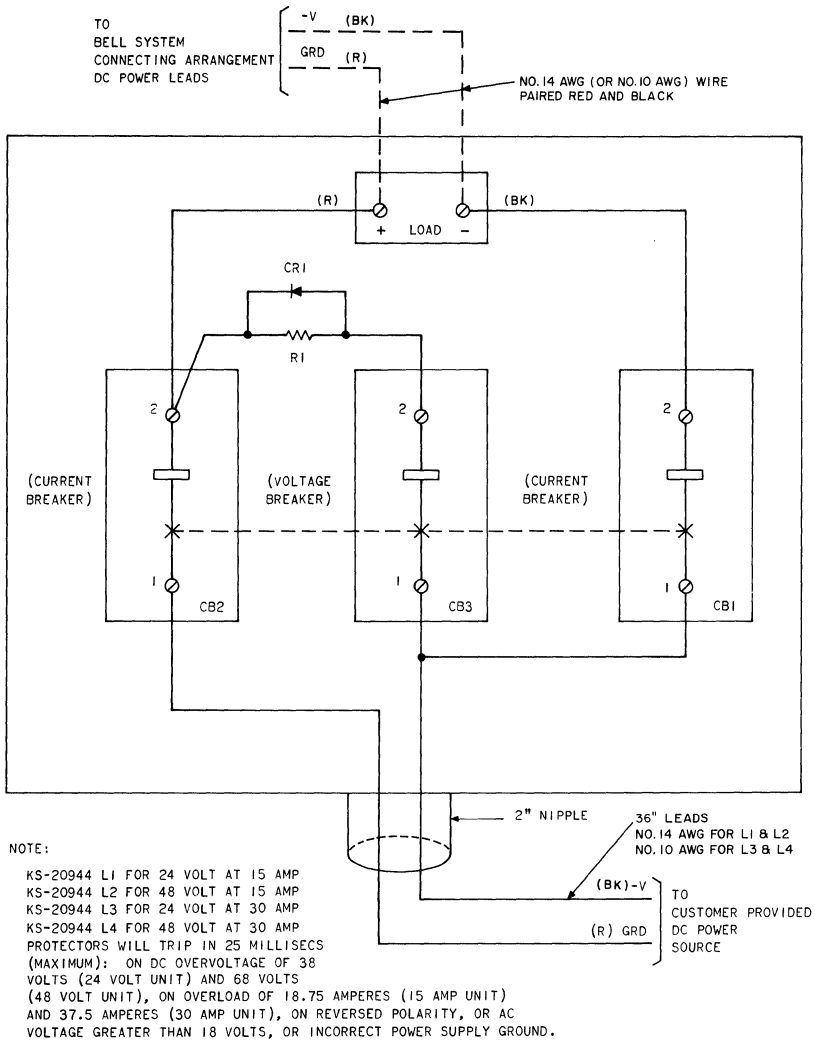

Fig. 18—Schematic—KS-20944 Protector
KS-20944 Protector (Fig. 18)
3.25 Set circuit breaker switch lever to OFF and connect as shown in Fig. 18 following local wiring instructions. The customer must connect his power supply to the red (GRD) and black (-V) wires extending from the unit.
E. KS-20944 Protector (Fig. 18)
6.08 For connection information using the KS-20944 protector, refer to Fig. 18. For connections to multiple installations, refer to Section 463-300-109.